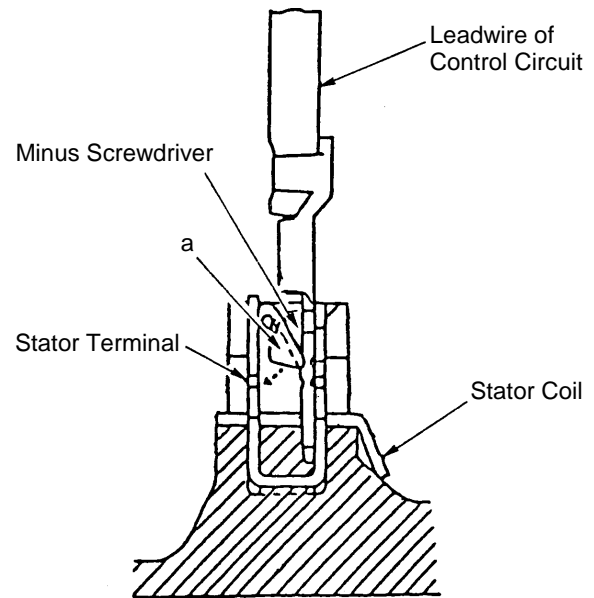

Fig. 5
- D. Loosen the four M5 x 60 Machine Screws (39), and disassemble the Housing (42) from the Frame (4).
- E. Loosen the six M5 x 14 Machine Screws (26), and remove the Pad (24).
- F. Remove the Cover Ass'y (22) from the Bottom Plate (18).
- G. Fit the Wrench Ass'y (Special Repair Tool, Code No 936522) into the holes provided on the Balance Weight (21) to hold it in position. Then turn the Armature (50) counterclockwise by hand to loosen and remove it from the Bottom Plate (18).
- H. Finally, lightly tap on the tip of the Armature (50) with a wooden or plastic hammer to loosen and remove the Armature (50) from the Frame (4).
(2) Disassembly of the Stator (46):
- A. Following the procedures described in Items A to D above, remove the Housing (42) from the Frame (4).
- B. Loosen the two D4 x 20 Tapping Screws (27), and remove the Handle Cover (28).
- C. Disconnect the Speed Controller (52) leadwire from the Switch (30).
- D. Cut off and remove the Speed Controller (52) leadwire and the Internal Wire (44).
- E. As illustrated in Fig. 5, insert a small, slender minus-head screwdriver into the stator terminal portion of the Stator (46), and gently bend back portion "a" just enough so that the Control Circuit (52) leadwire can be withdrawn. (At this time, be very careful not to excessively bend portion "a" within the stator terminal. If it is deformed, the leadwire cannot be properly secured when it is reinserted.)
- F. Loosen the two D5 x 55 Hexagon Hd. Tapping Screws (48), and lightly tap the end surface of the Housing (42) with a wooden or plastic hammer to loosen and remove the Stator (46) from the Housing (42).